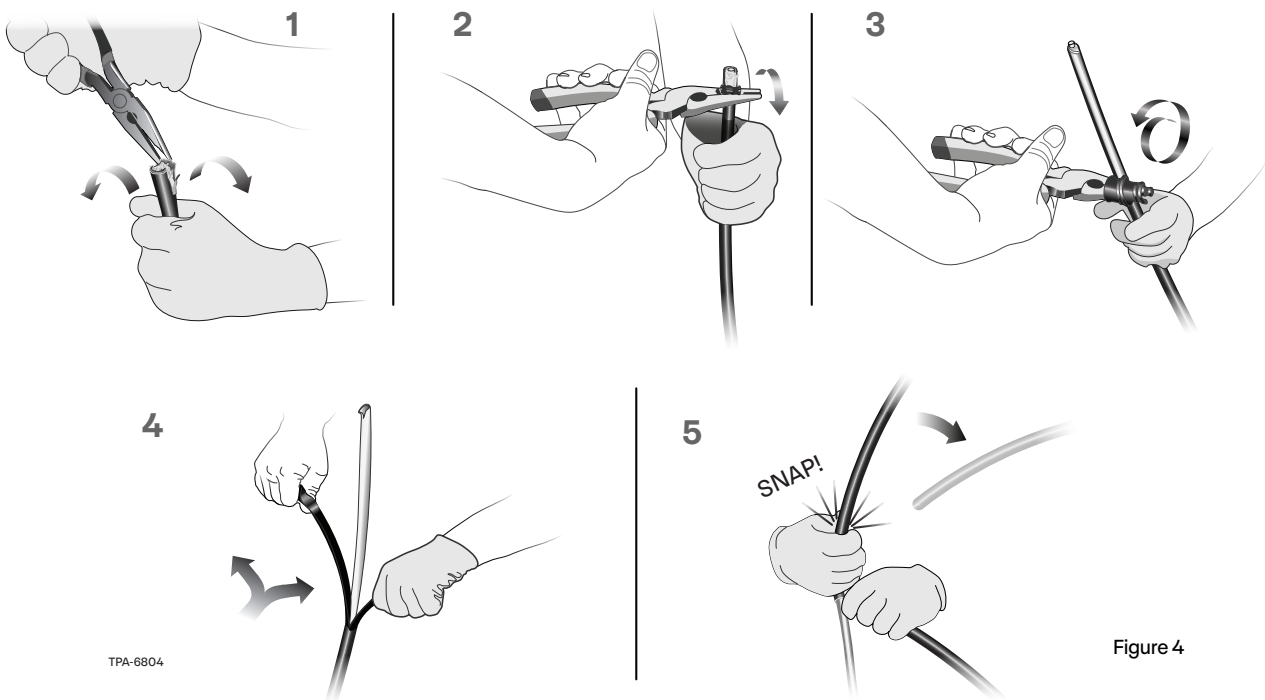

Figure 4
Step 3: Insert needle nose pliers into the end of the cable and pull the jacket away. Then twist off the jacket on the end of the cable to start the FastAccess™ feature tear. Then use hands to pull jacket to tape mark. Bend back and snap off at ring cut (Figure 4).